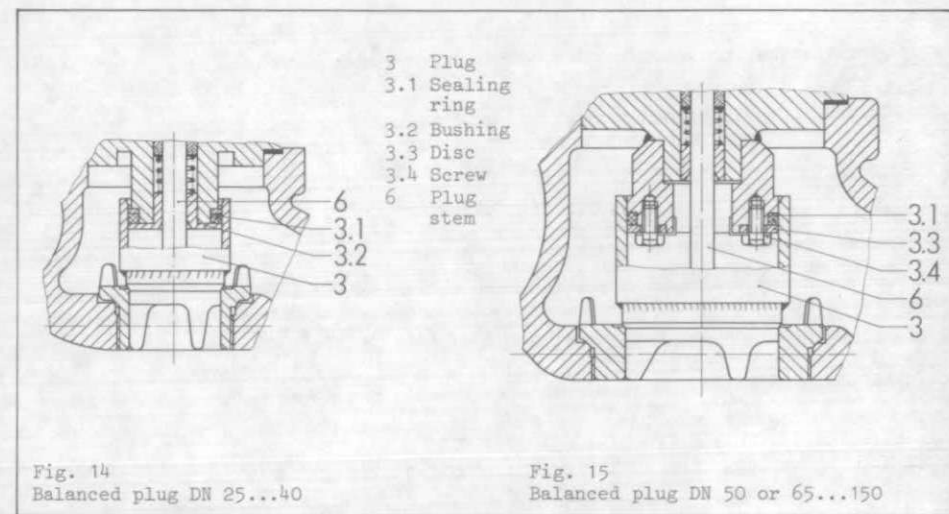

Fig. 14
6.4.1 Nominal sizes 25 to 40 mm (Fig. 14)